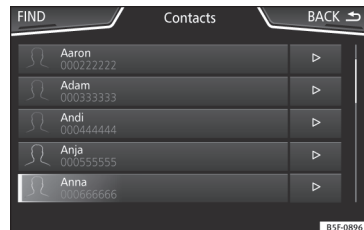

Fig. 200 Contacts Menu.
- Press the **Search** function button »» **Fig. 200** to open the search window.
- Press the function button **▷** »» **Fig. 200** located next to the entry on the contacts list.